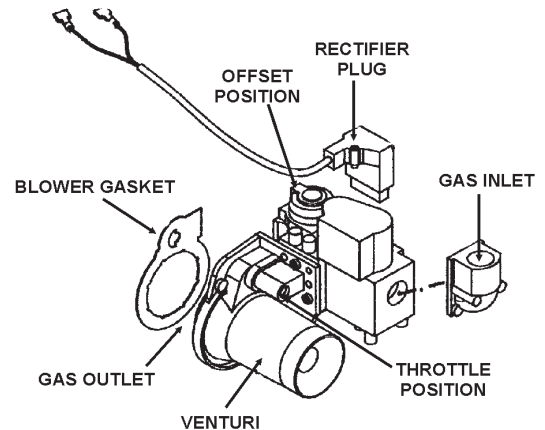

FIGURE 14.
1. When connecting gas pipe to unit, apply wrench to flange only. Note: Do not use wrench on gas valve or gas bracket. See Figure 14.